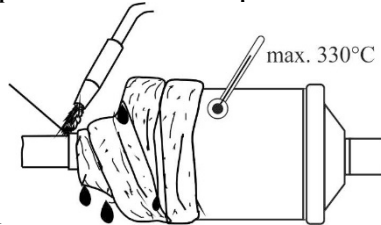

Fig.1
1. Connexion de brasage: (Fig.1)